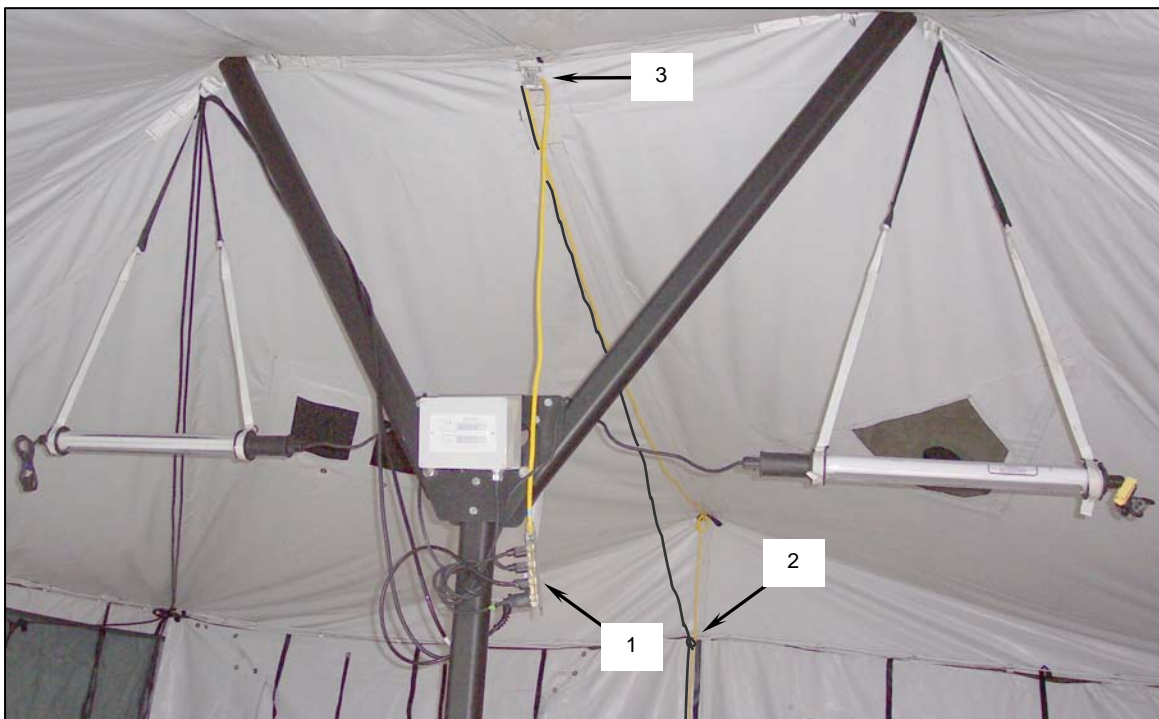

Figure 37. Extension Cord Removal.
- k. Unplug the power converter cable, the two electric light cords, and the carbon monoxide (CO) monitor power cord from outlet end of the 100-ft extension cord (**Figure 37, Item 1**).
- l. Untie the 100-ft extension cord from the tent strap (**Figure 37, Item 2**) and slide the cord out of the strap buckles (**Figure 37, Item 3**) at the top of the tent.